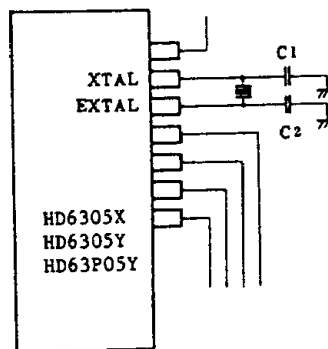

Figure 34 Design of Oscillation Circuit Board
- (1) Locate crystal, ceramic resonator, and load capacity C₁ and C₂ as near the LSI as possible. (Induction of noise from outside to the XTAL and EXTAL pins may cause trouble in oscillation.)
- (2) Wire the signal lines to the neighbouring XTAL and EXTAL pins as far apart as possible.
- (3) Board design of situating signal lines or power supply lines near the oscillator circuit as shown in Fig. 35, should not be used because of trouble in oscillation by induction. The resistor between the XTAL and EXTAL, and pins close to them should be 10M Ω or more. The circuit in Fig. 34 is an example of good board design.